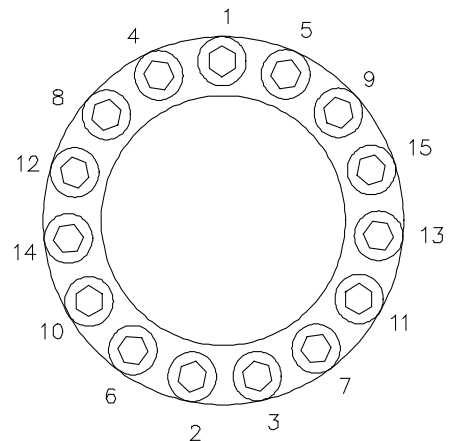

Fig 37 Retainer tightening sequence
- Check rotor mesh clearance against Clearance Chart - refer to section 8.1. To adjust the mesh clearance rotate shafts (5.01 and 5.02). Having achieved optimum mesh clearance, retainer (5.16) can be tightened to correct torque, refer to section 8.2, taking note of typical tightening sequence, see Fig 37.